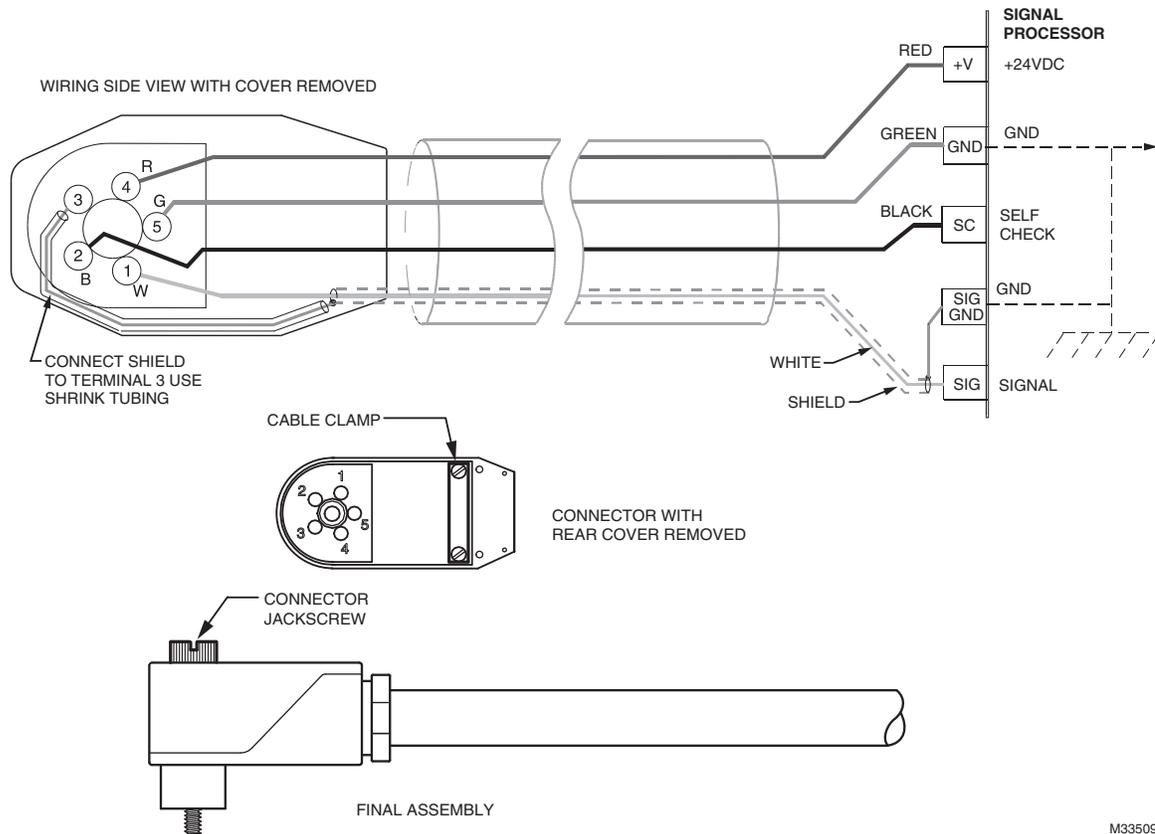

Fig. 2. Viewing head connector wiring.
For wiring, refer to the diagram in Fig. 2.
Fig. 2 shows a four-conductor cable connected to the viewing head plug.
8. Strip each wire 3/8" as shown in the assembly drawing Fig. 2.